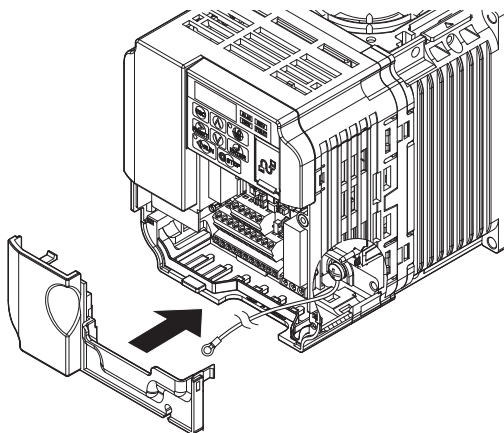
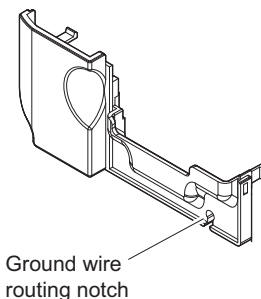

Figure 19 Reattach the Terminal Cover
Figure 20 Terminal Cover Ground Wire Notch
- 18.** On models CIMR-V□BA0006□ to BA0018□, 2A0008□ to 2A0069□, and 4A0001□ to 4A0038□, reattach the terminal cover. Refer to Figure 19 and Figure 20 for drive models CIMR-V□BA0006□ to BA0018□, 2A0008□ to 2A0020□, and 4A0001□ to 4A0011□, which require routing the ground wire through the provided notch when reinstalling the terminal cover.